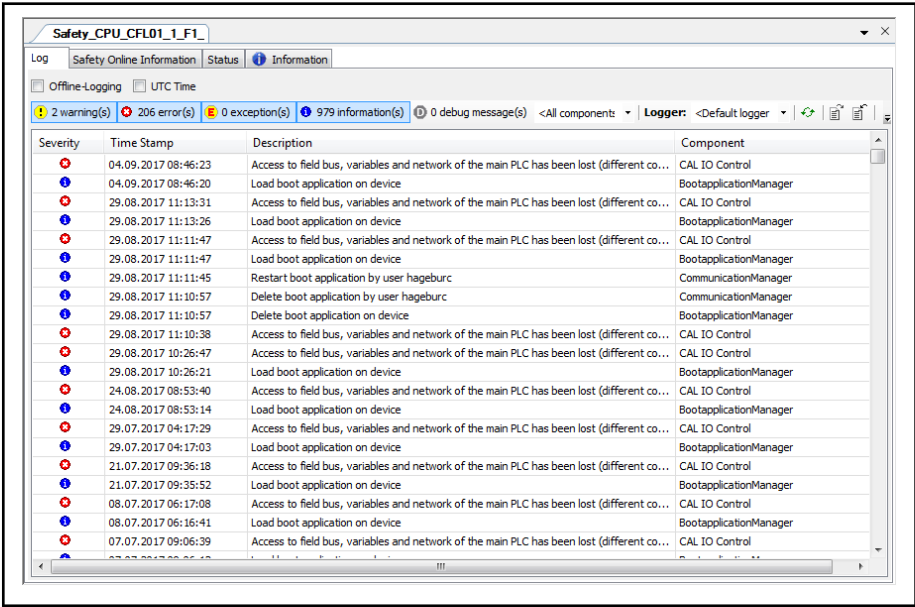

Fig. 7-2: Safety control logbook
**Solution:** Restart the control and analyze the log of the safety control (see fig. 7-2 "Safety control logbook" on page 68).